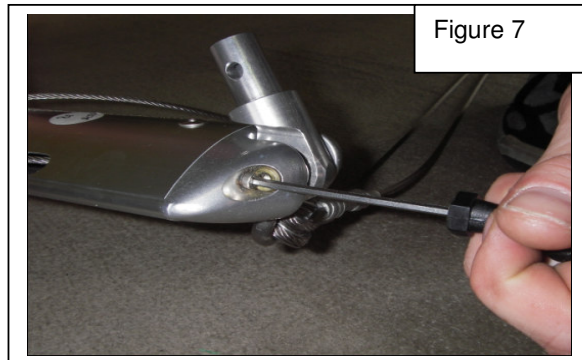

Figure 7
12. Remove locking screw using a 3mm Allen key. Remove 4mm locking cap screw from bottom fitting. Note, if difficulty occurs removing locking screw, turn shoulder bolt in clockwise first (Locking screw is ITEM 7 SKT CAP SCREW SS M4X8, shoulder bolt is item 9 in exploded parts view, drawing 6476.). See figure 7.